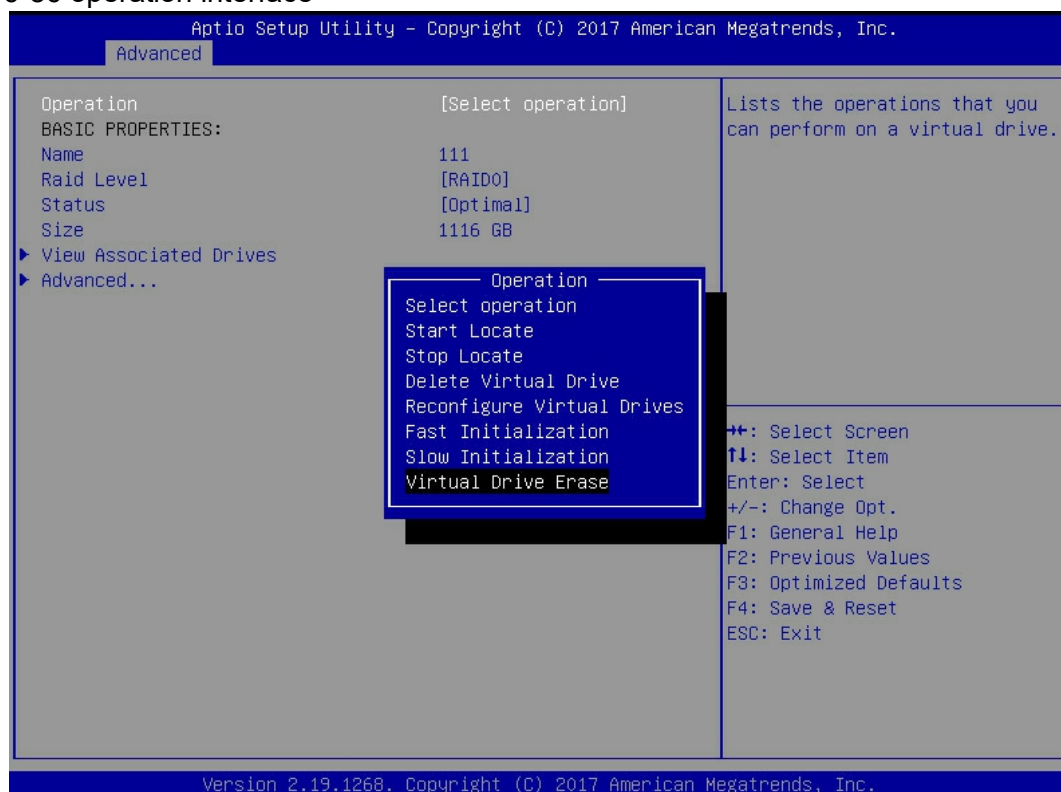

Figure 6-86
- c) Enter the interface shown in figure 6-86, select operation, press enter, and then select virtual drive erase in the pop-up dialog box, and press enter.
✧ Figure 6-86 operation interface